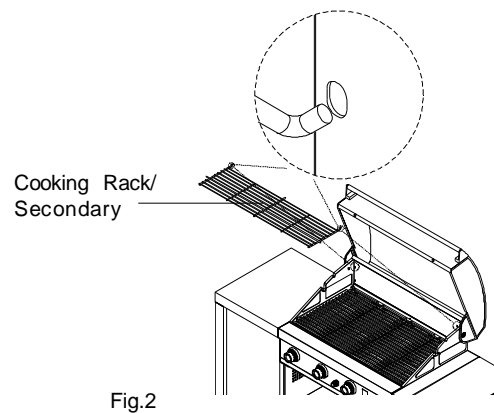

Fig.2
- Place the Secondary Cooking Rack into the slots on Grill Bowl Rear Panel. see Fig.2